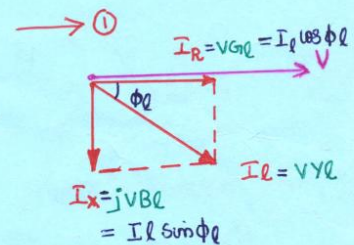

Fig 2
- ② This equation ① is shown in phasor diagram (Fig 2).